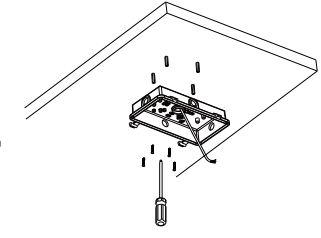

Figure 2-4
4. Fix the driver box cover on the ceiling; Figure 2-4